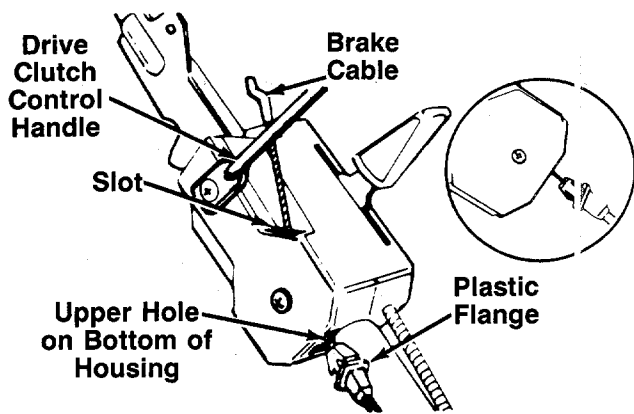
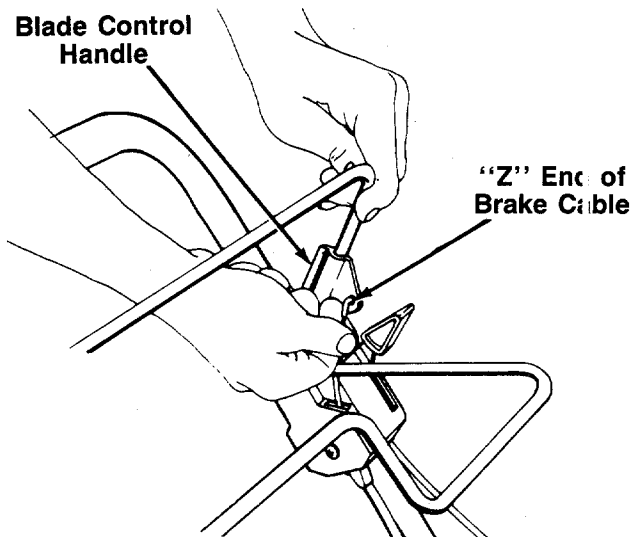

FIGURE 6.
FIGURE 7.
1. The brake cable is attached to the engine, and has a "Z" fitting on the loose end. Route the brake cable below the lower handle. Place end of cable into the upper hole on the bottom of the control housing, and through the slot as shown. The angle of the plastic flange must be positioned downward as shown in figure 6. Be careful not to bend or kink the cable at any time.
3. Route the brake cable to the outside of the drive clutch control handle. See figure 6. Hook the "Z" end of the brake cable into the hole in the blade control handle from the inside to the outside as shown in figure 7.